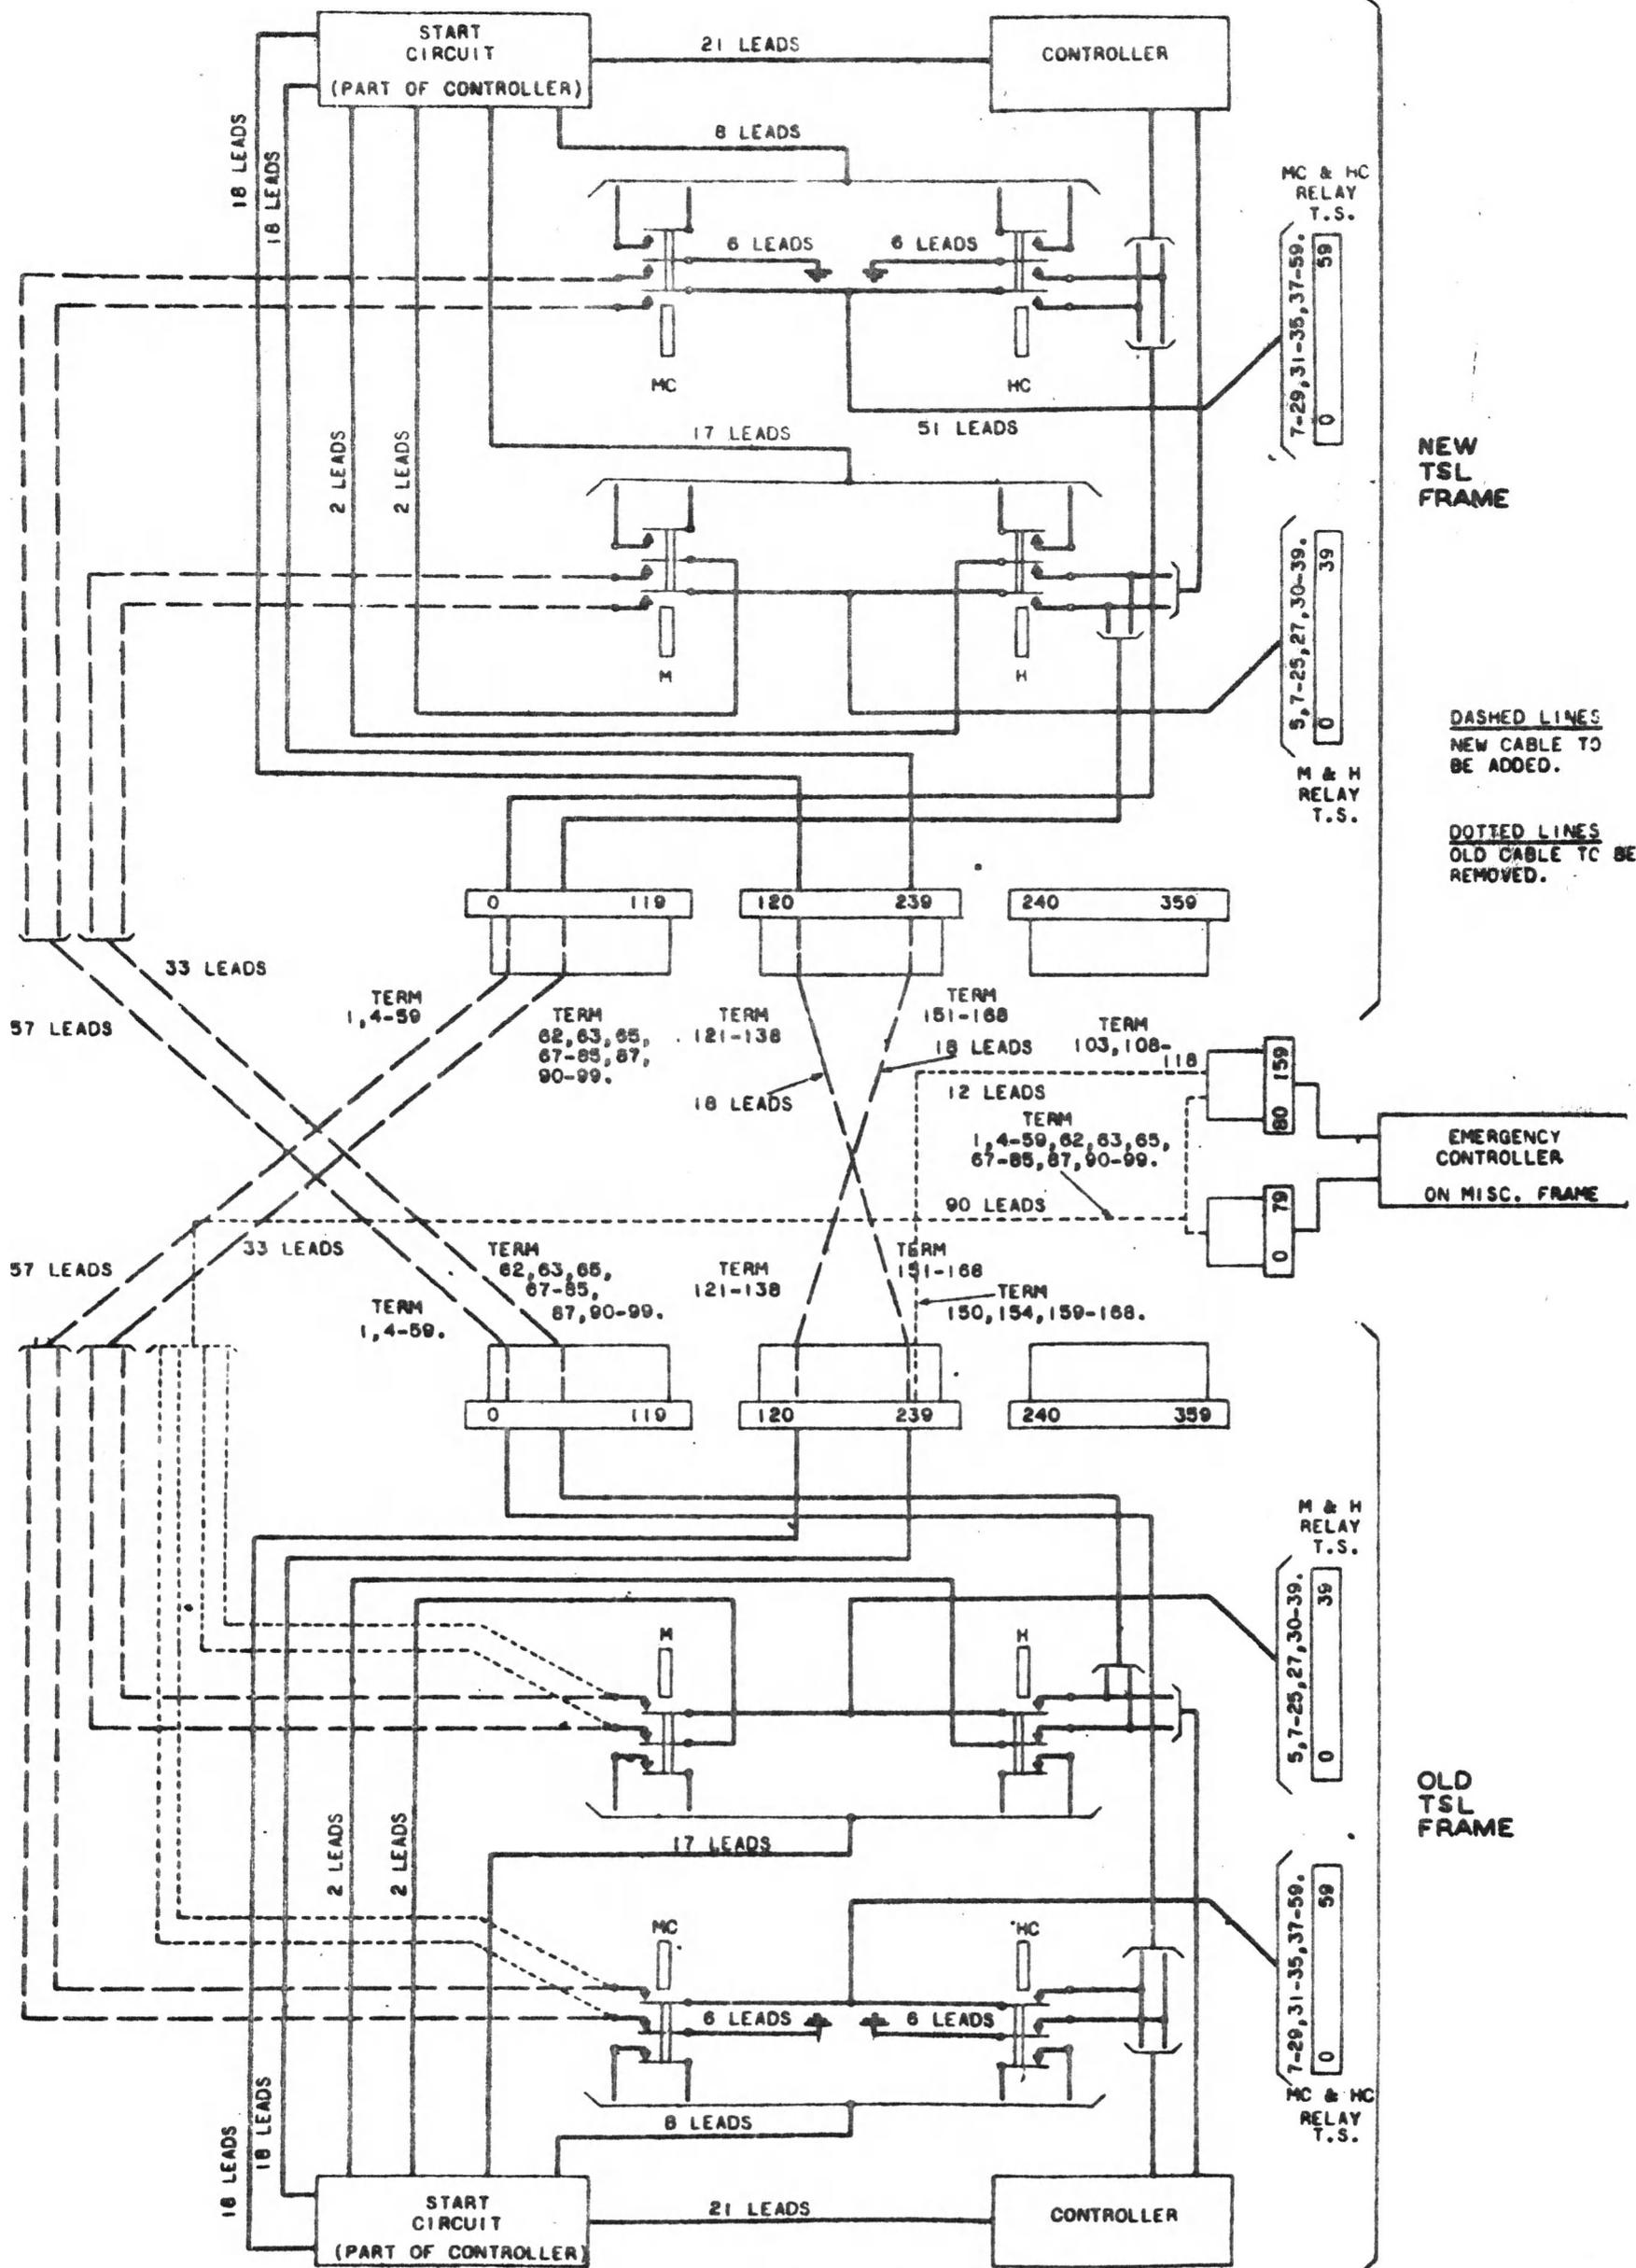

FIG. 1 CABLING ARRANGEMENT OF THE EMERGENCY AND REGULAR TERMINATING SENDER LINK CONTROLLER CIRCUITS (Par. 7.1)
6.1 Figure 1 illustrates the composite cabling arrangement of an emergency controller, shown with dotted lines and a regular controller of a new TSL frame shown with dashed lines, with an old TSL frame.